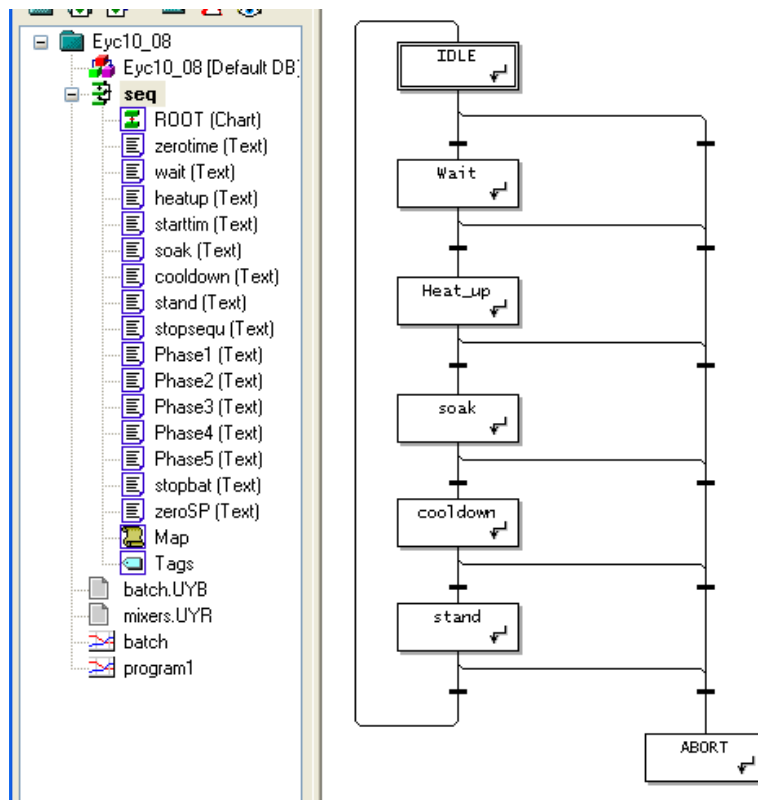

Figure 8-11 The modified sequence — ‘abort’ added
Figure 8-11 shows how the sequence will look after being modified to add ‘abort’ functionality. To do this:
- 2 Click the **Step** tool  and position a new step near the bottom right of the existing sequence (see Figure 8-11). Double-click the new step and name it ‘ABORT’ in the step pane.